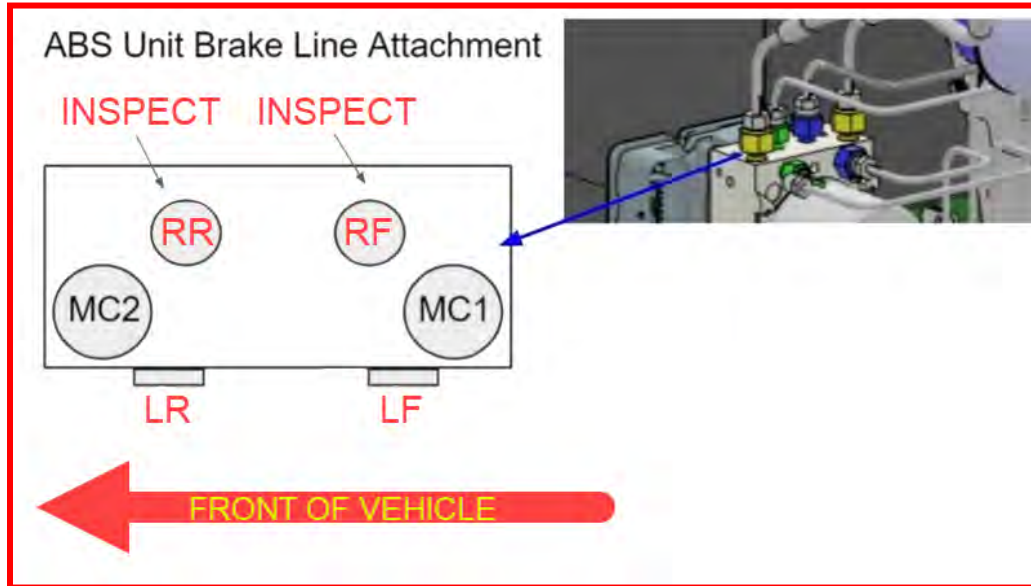

Figure 6 - ABS Assembly & Brake Line Locations
1. Visually inspect the right rear brake line at the ABS Assembly. The right rear (RR) brake line is the 2nd fitting when counting front-to-back located on the top of the ABS Assembly (Figure 6).